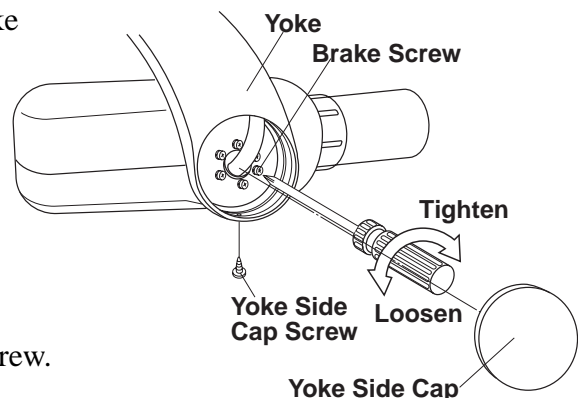

Fig.3-27 Head Positioning
- B. If head drifts from the set position, adjust the brake screws according to the following procedures. (Fig.3-27)